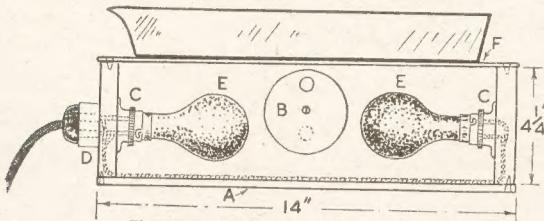

Fig. 2—Section showing lamps in place
A 5 amp. plug holder is next wired up to one of the bulb holders and screwed into position, Fig. 2 (D). Two 25-watt electric bulbs, see Fig. 2 (E) are next installed and the heating plate, Fig. 2 (F), screwed into position with small brass screws. The heating plate can be made from either brass, copper or stainless steel, 14ins. by 8ins. by  $\frac{1}{8}$  in. Do not, however, use aluminium for this purpose, as any spilt developer, being strongly alkali, will immediately attack and corrode the metal.